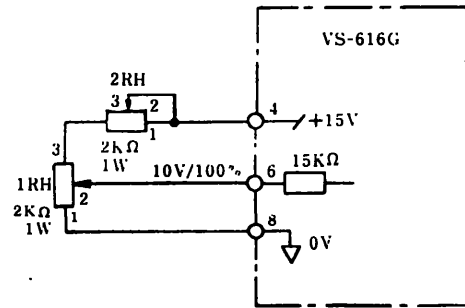

Fig. 6.1 Frequency Setting Signal of G Series
For frequency setting signals, DC voltages between 0 and +10V are applied across terminals (6) and (8) (Fig. 6.1). For this input, the resistance is 15 kΩ.